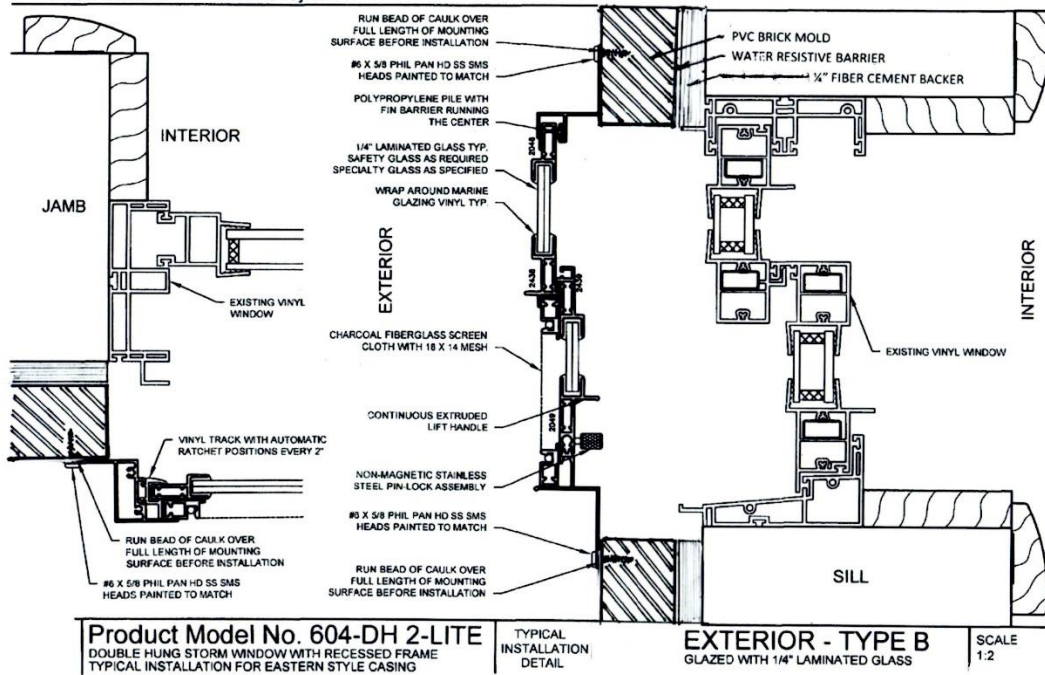

Fig. 11 - Detail of Exterior Acoustical Storm Window Installation in Cement-Fiber Replacement Siding with Backing Layer
- a. Installation of Brick Molding with 2" wide by 1-1/4" deep, solid PVC section to provide a mounting plane for the Acoustical Storm Windows as shown in Fig. 11; and